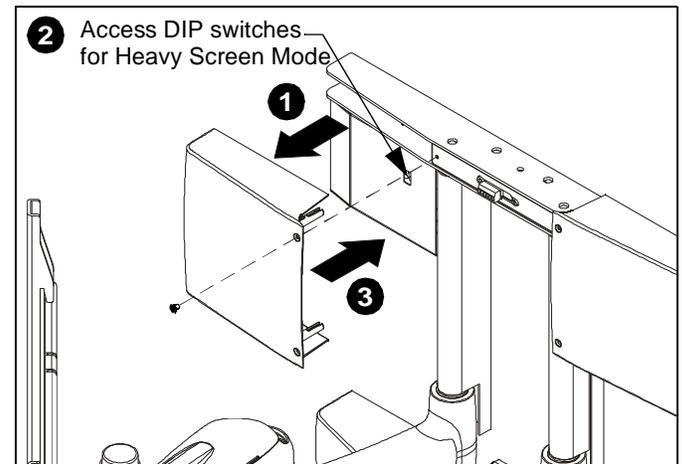

Figure 43
1. Remove the plastic cover from the main circuit board. (See Figure 43)
2. Use a small screwdriver or small pointed object to flip DIP Switch 1 on the main control board to the "off" position. (See Figure 43)